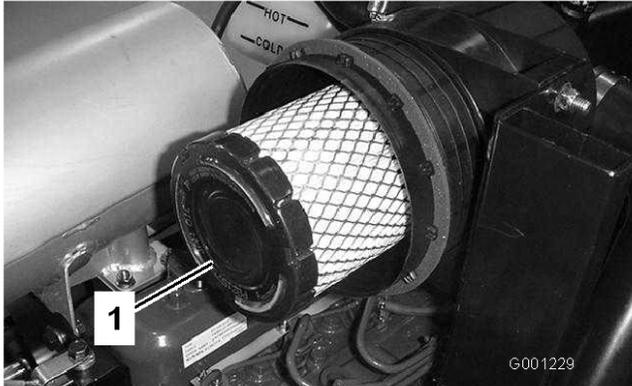

Figure 47
4. Remove and replace the primary filter (Figure 47).